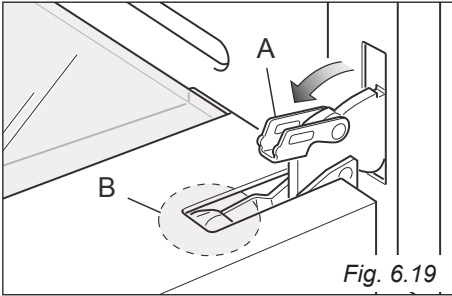
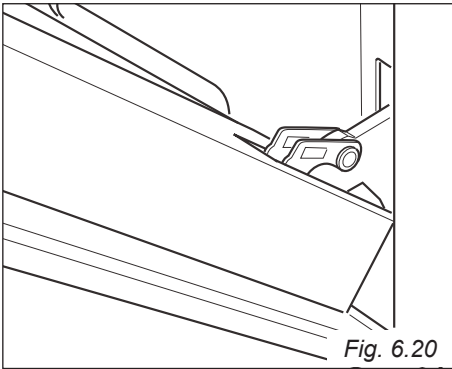

Fig. 6.19
Fig. 6.20
- Open the lever “A” completely on the left and right hinges (fig. 6.19).
- Gently close the door (fig. 6.20) until left and right hinge levers “A” are hooked to part “B” of the door (fig. 6.19).